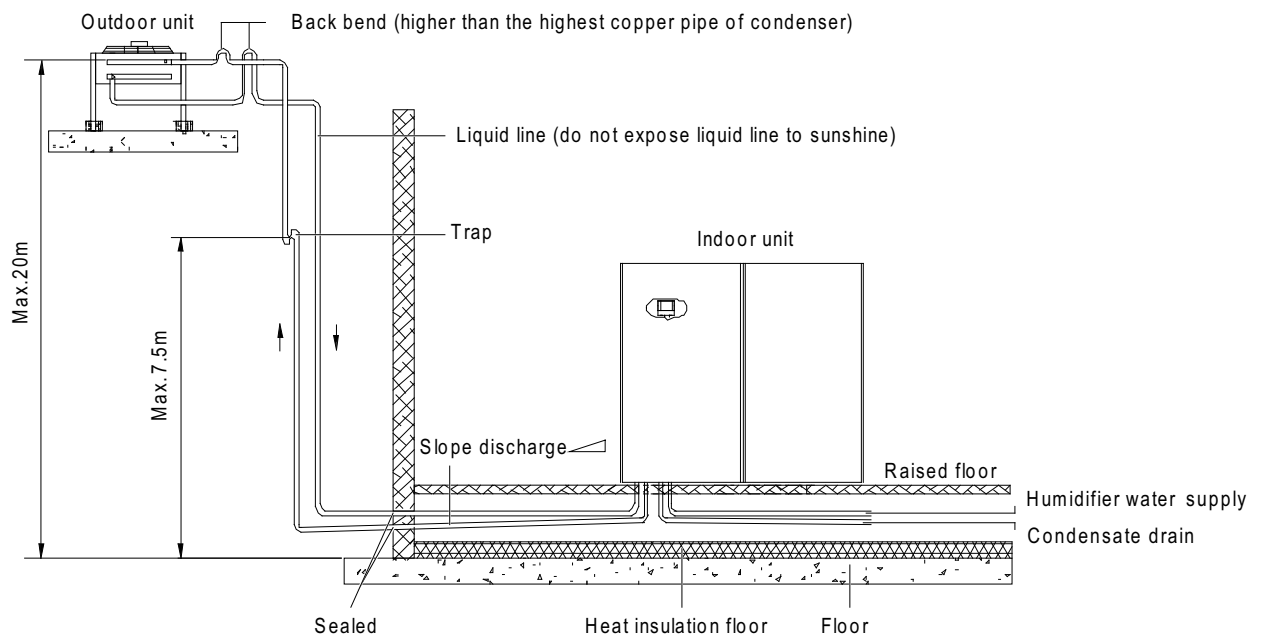
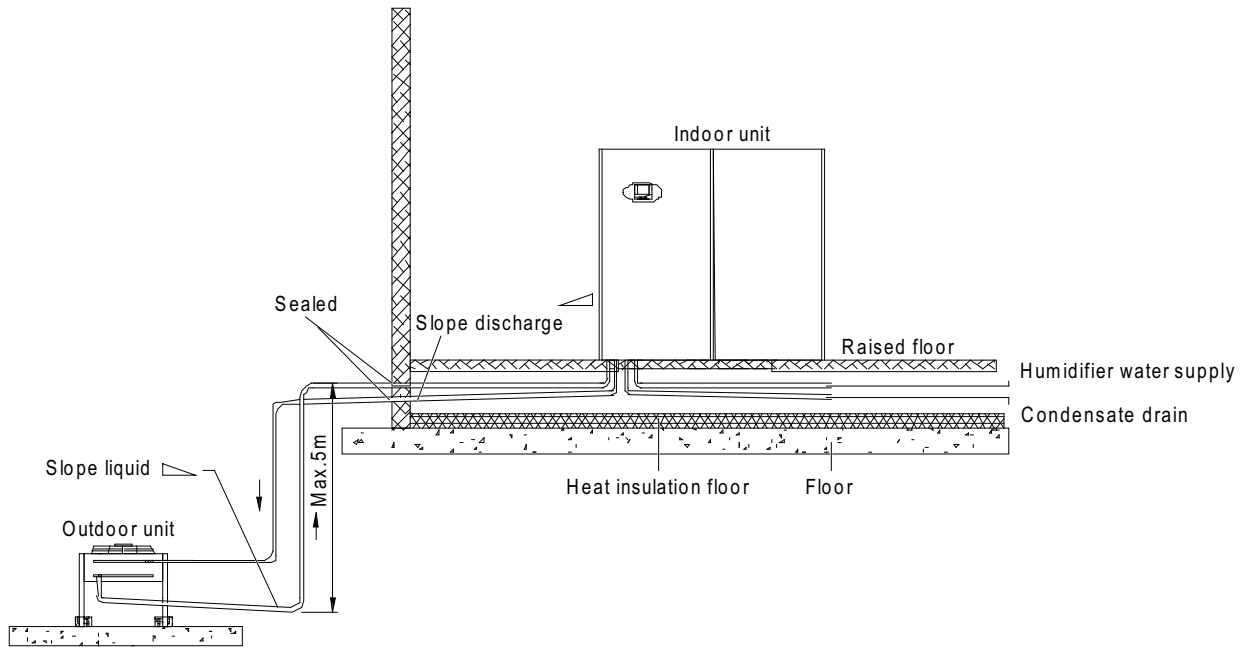

Figure 2-8 Condenser installed higher than compressor
Figure 2-9 Compressor installed higher than condenser
The installation modes of the air-cooled series unit are shown in Figure 2-8 and Figure 2-9.
1. If the condenser is installed higher than the compressor (see Figure 2-8), a back bend should be fitted to the discharge line and liquid line of the condenser, so as to prevent the liquid refrigerant from flowing back when the condenser stops.